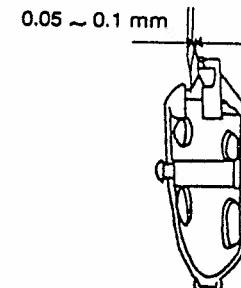

Fig. 10.6
- (3) Now adjust the position of the rotating hook so that a clearance of 0 to 0.05 mm is created between the head of the inner hook and needle. (See Fig. 10.6) The rotating hook can be moved by first loosening its set screw and then turning the eccentric pin using a slot-head screwdriver.